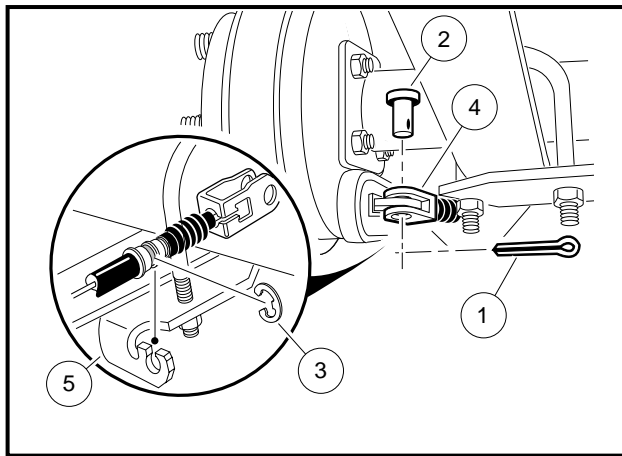

Figure 6-24 Disconnect Cables at Rear Brakes
- 4.1. Remove cotter pins (1), clevis pins (2), and E-clips (3) (**Figure 6-24, Page 6-15**).
2. Place the cables in the cable support brackets (5) and secure with new E-clips (3). Connect the cables to the brake actuator arms using new clevis pins (2) and cotter pins (1) (**Figure 6-24, Page 6-15**).